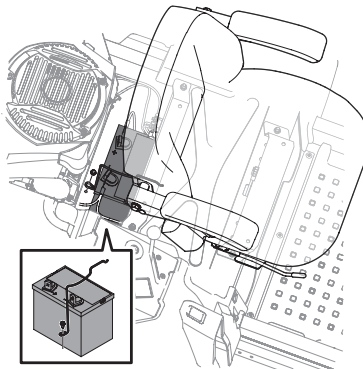

Figure 4-7
2. Remove the hex washer screw securing the battery hold-down bracket to the frame. Then flip the battery hold-down bracket up to free the battery. See Figure 4-7.